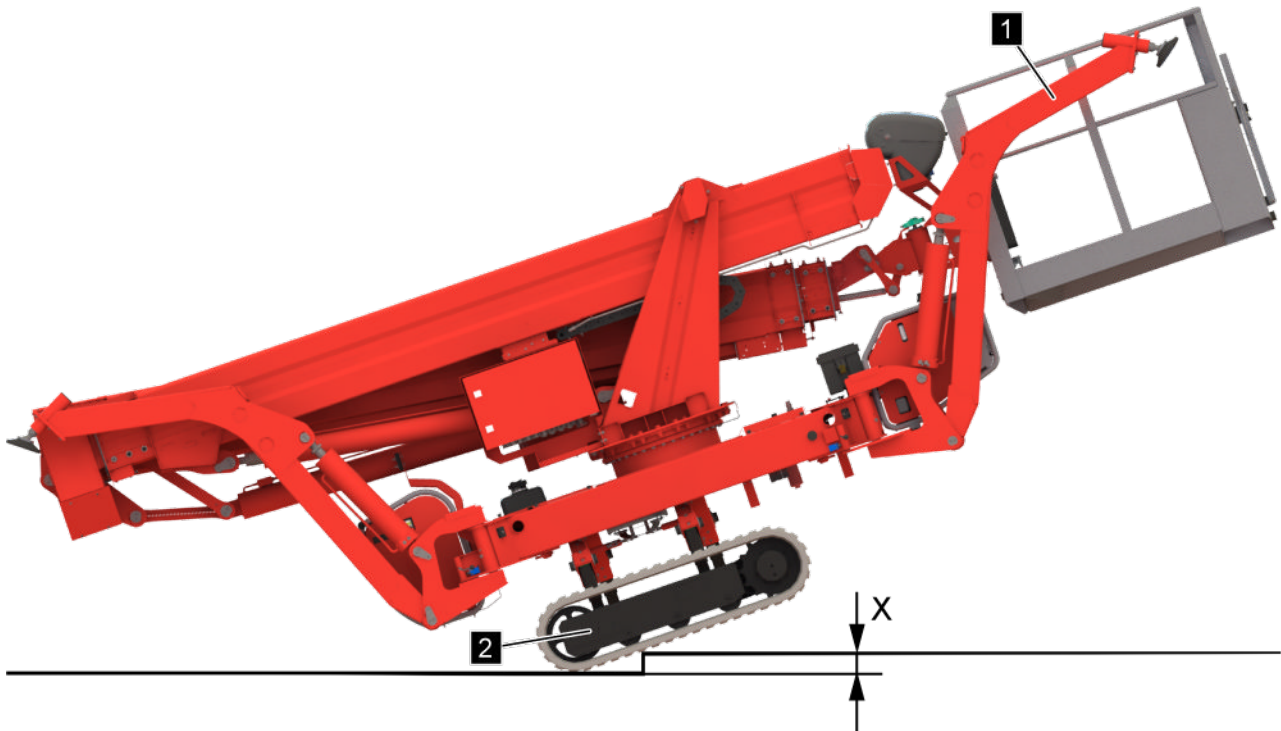

Fig. 115: Driving over edges
- Adhere to the maximum height difference when driving over an edge (max. edge height $X = 100 \text{ mm}$ (Fig. 115)).
1. ➤ Retract the crawler chassis (Fig. 115/2) completely (↪ Chapter 6.11 'Crawler chassis height and width adjustment' on page 125).
3. ➤ Swivel outriggers 1 and 4 (Fig. 115/1) into the rear transport position (↪ Chapter 6.7 'Setting the working position of the outriggers' on page 96).
4. ➤ Make sure that the heights of the edges (Fig. 115/X) over which you wish to drive do not exceed 100 mm.